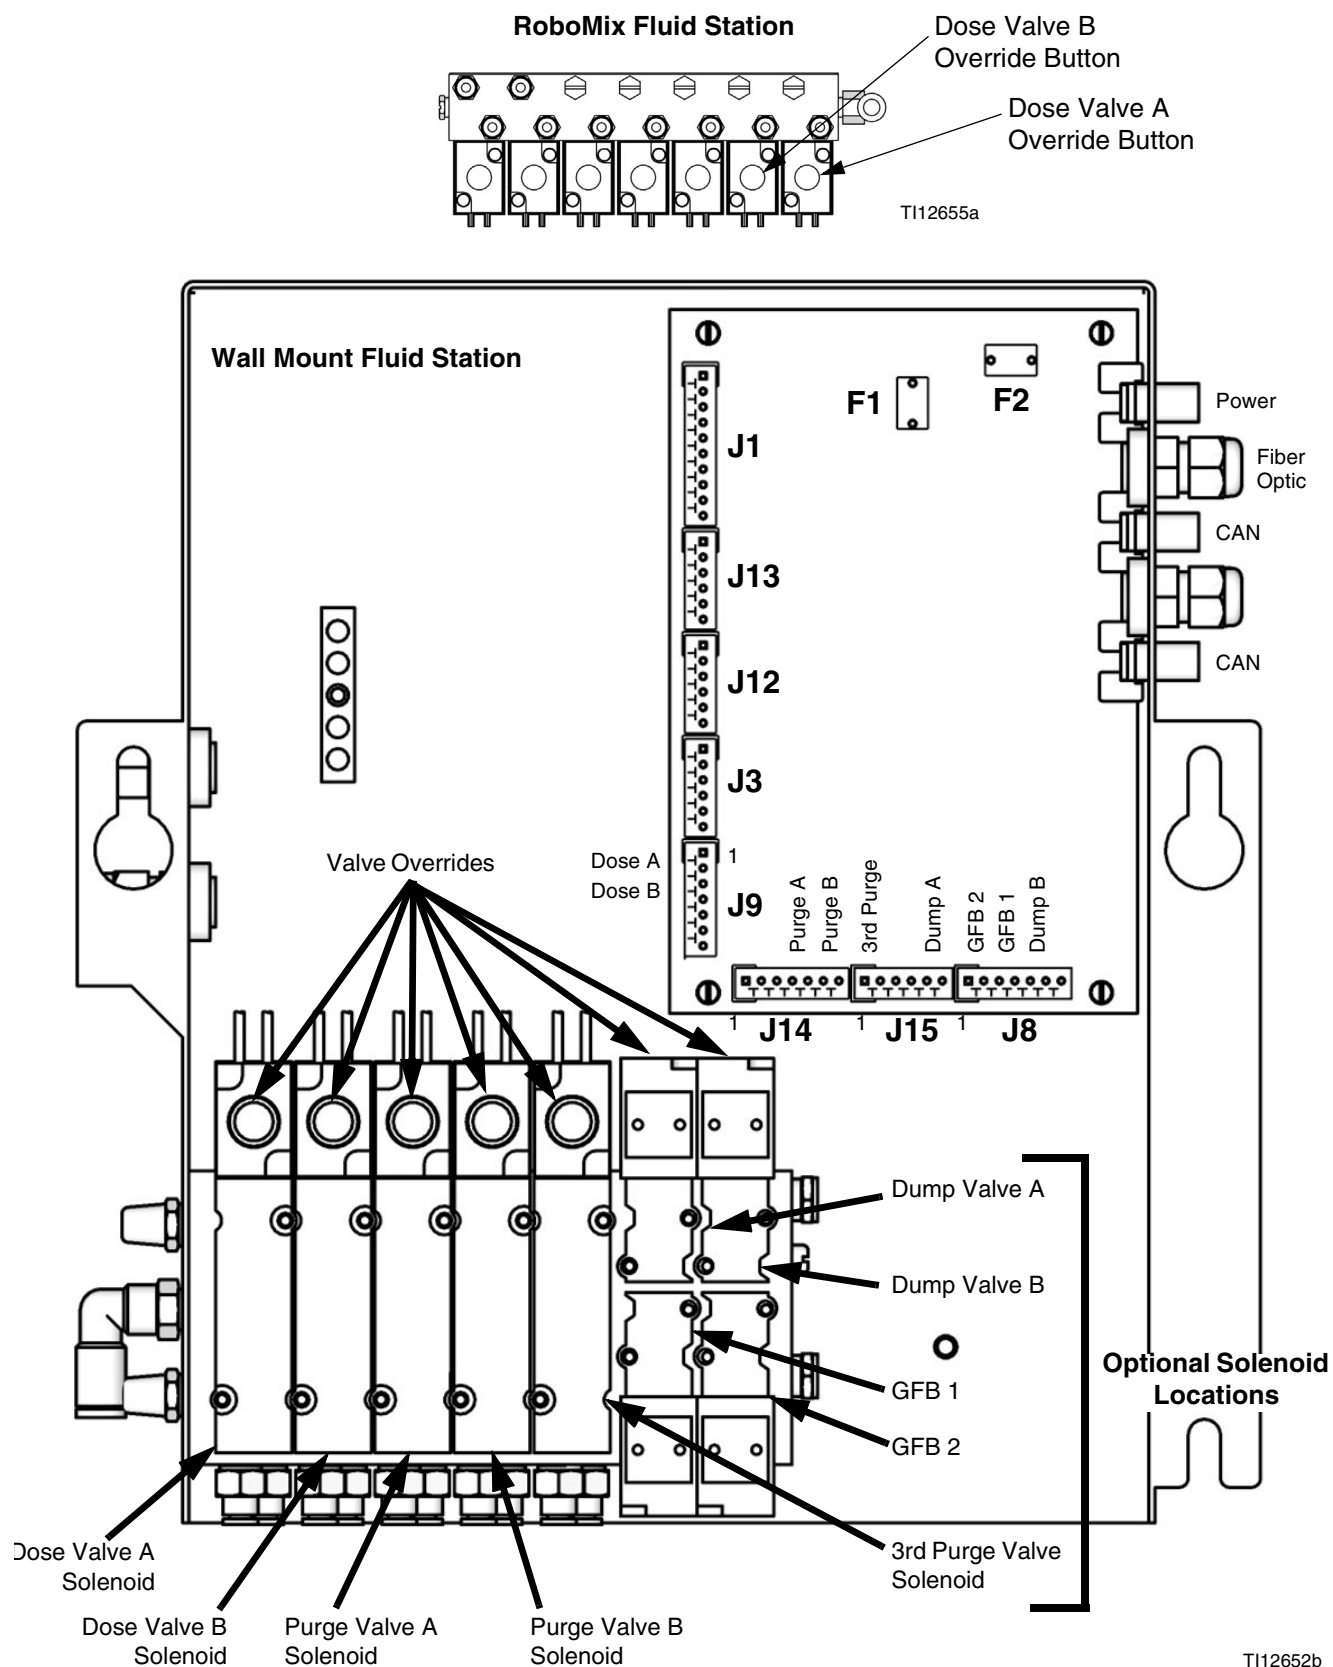

FIG. 104. Fluid Solenoids
2. With the gun triggered, push the manual override on the A and B dose valve solenoids to relieve pressure. See FIG. 104.
5. With the gun triggered, push the manual override on the A and B purge valve solenoids to relieve air and solvent pressure. See FIG. 104. Verify that solvent pressure is reduced to 0.
3. Press and hold the dump valve A solenoid override, FIG. 104.
5. Press and hold the dump valve B solenoid override, FIG. 104.
7. Press and hold the dump valve A solenoid override, FIG. 104.
9. Press and hold the dump valve B solenoid override, FIG. 104.